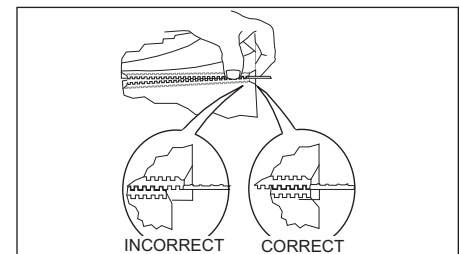

Figure 10. Aligning Belt Teeth
6. Install the new Belt Wraps around the Conveyor Belt Chains inside the Upper and Lower Support Rods with the zipper flap exposed and hanging down (Figures 10 & 11). Attach Belt Wrap clips (if present) to large links evenly.